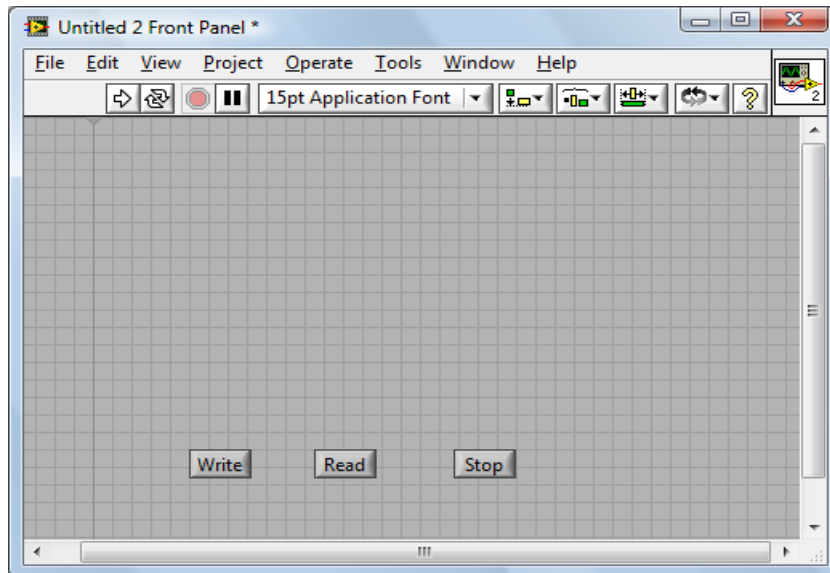

Figure 4-3-2
2. Right-click the **Front Panel** to choose **Controls**>>**Modern**>>**Boolean**>>**OK Button**; add three buttons and respectively define them as **Write**, **Read** and **Stop**. See figure 4-3-2.